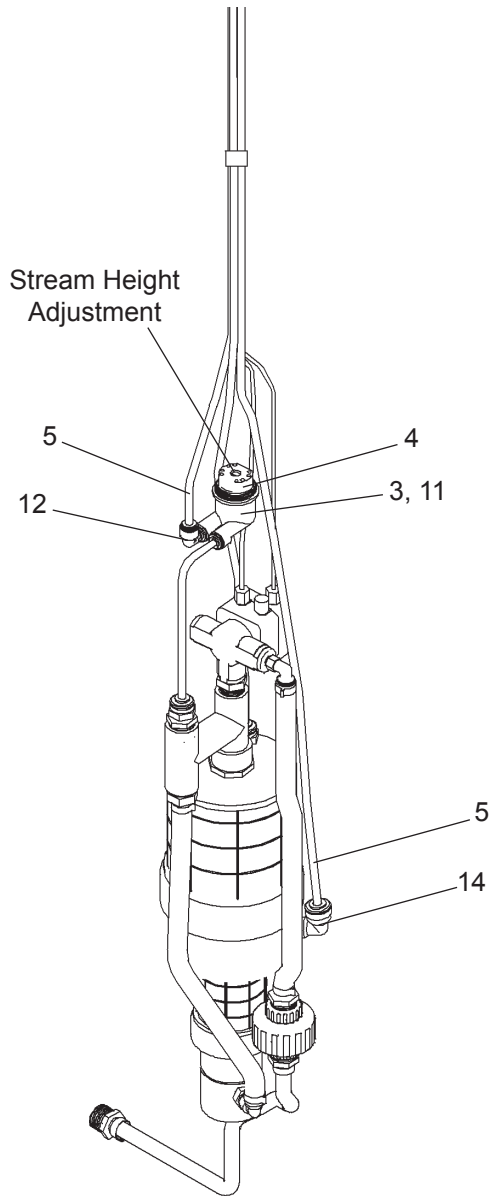

FIG. 4
- Remove the PVC cap from the PVC column. Remove the valve assembly from the PVC column by carefully pulling up on the connecting tubing. Pressure test the valve assembly for leaks. Check stream height from the bubbler. Stream height is factory set at 35 PSI. If supply pressure varies greatly from this, adjust the screw on the regulator (Item 19, Page 5, Stream Height Adjustment Detail). Clockwise adjustment will raise stream and counter-clockwise adjustment will lower stream. For best adjustment stream height should be approx. 1-1/2" (38mm) above the bubbler guard (see FIG. 4). Replace the valve into the PVC column. Make sure the supply hose coils into the bottom of the PVC column without any kinks and double check that the valve is positioned fully at the bottom of the PVC column. Cap the PVC column.
- Remove the cleanout plug from the PVC column. Remove the valve assembly from the PVC column by carefully pulling up on the strap and connecting tubing at the same time. Pressure test the valve assembly for leaks. Check stream height from the bubbler. Stream height is factory set at 35 PSI. If supply pressure varies greatly from this, adjust the screw on the regulator (Item 11, Page 10, Fig. 4). Clockwise adjustment will raise stream and counter-clockwise adjustment will lower stream. For best adjustment stream height should be approx. 1-1/2" (38mm) above the bubbler guard. Replace the valve into the PVC column. Make sure the supply hose coils into the bottom of the PVC column without any kinks and double check that the valve is positioned fully at the bottom of the PVC column. Cap the PVC column.